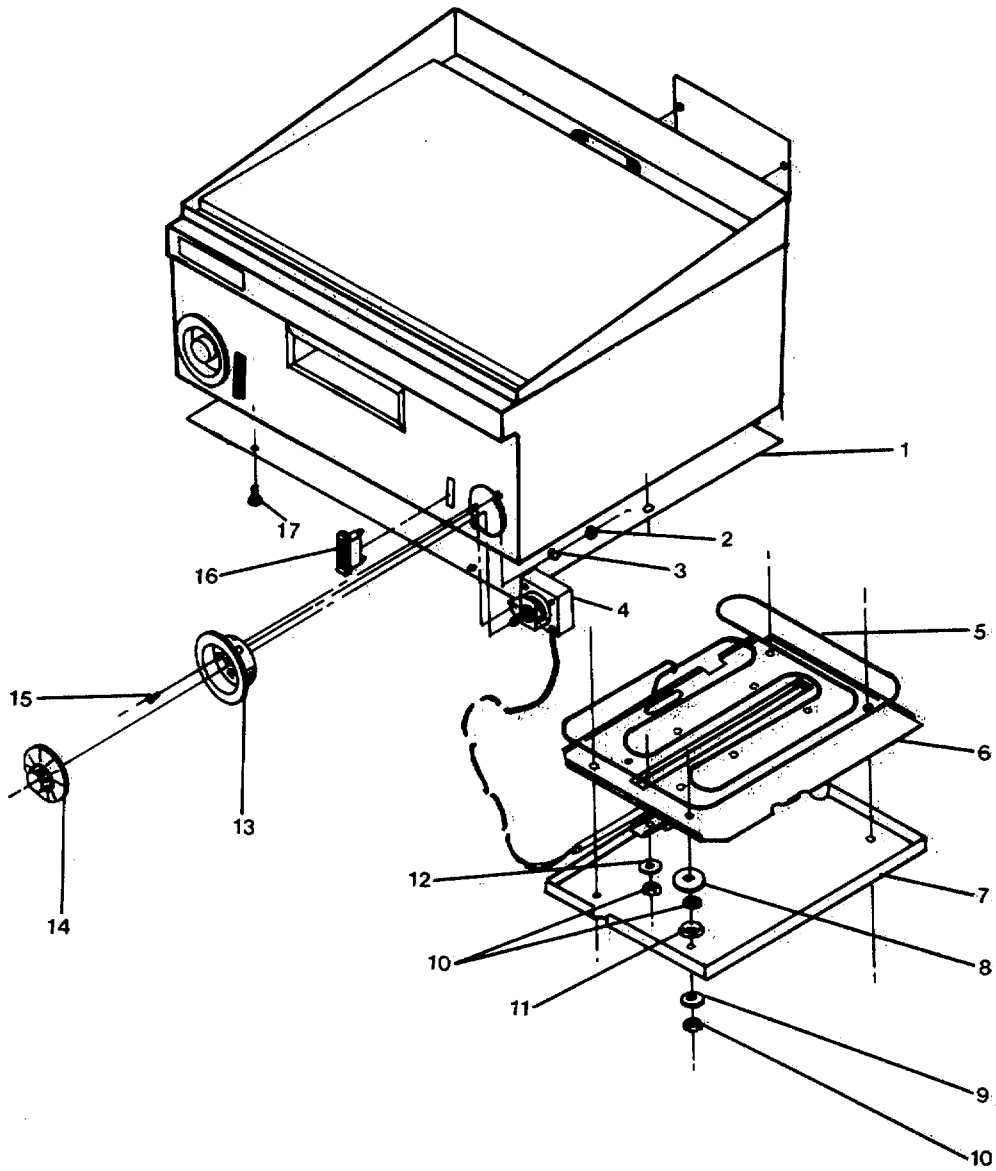

FIGURE 3-63. Repair Self-Heating Griddle.
- d. Install switch knob (11).
- f. Install temperature switch (6).
- g. Install knob adapter (7) and switch knob (8).
- i. Install switch panel (9).
- j. Install fuse compartment door (4).
- k. Install temperature switch (3) for corresponding hot plate (1) mounted in twin panel plate (2).
**3-61. Repair Self-Heating Griddle. (Figure 3-63)****This task covers:****a. Disassembly****b. Repair****c. Assembly.****INITIAL SETUP:**Tools